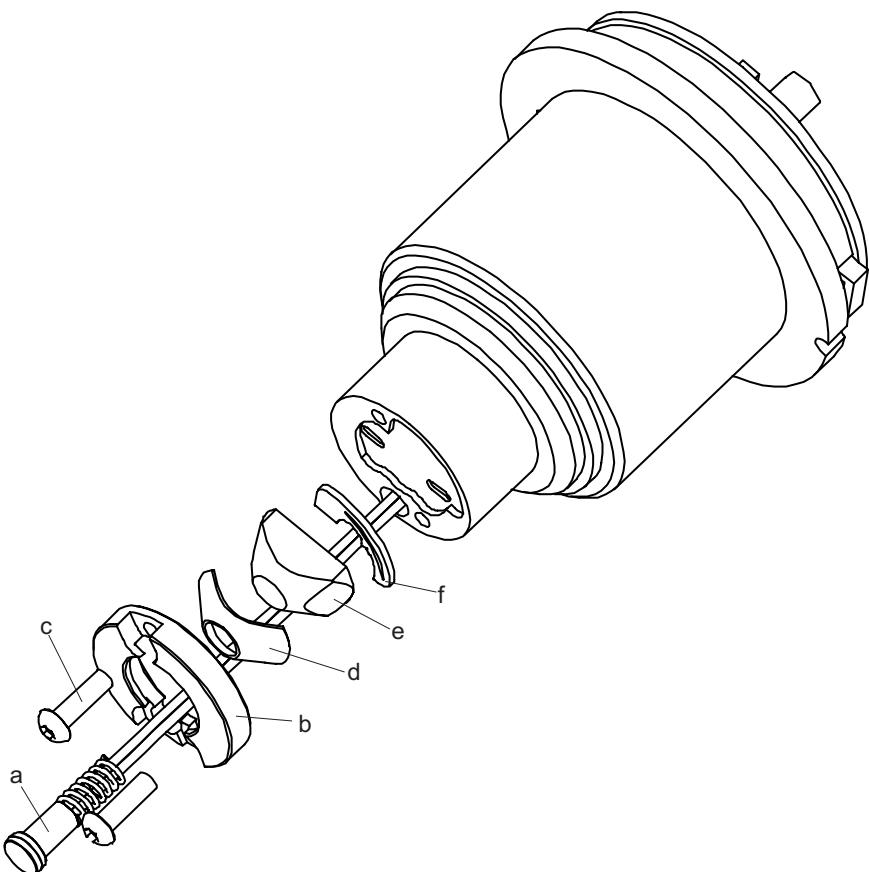

Figure 7.3 Removal of prism
6. Remove the disc spring holder (N), the two disc springs (P), and the thermal conductor (R).
7. Lift out the core module (S). The module does not turn due to the alignment pin (T).
8. Pull out the temperature element (a) about one inch away from the Core module, Figure 7.3.